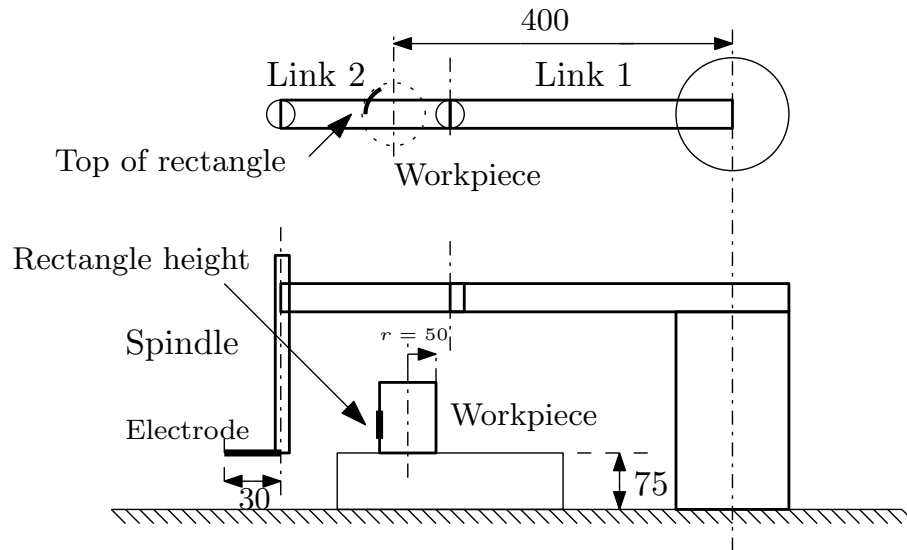

Figure 4: Workpiece and initial electrode position
A plasma cutting electrode is attached horizontally at the bottom end of the spindle (see Fig. 4). The electrode rotates and moves up and down with the spindle. The robot will be used to cut a rectangular window on a circular-base cylinder located along the reference position shown in the figure. The cylinder has radius 50 mm, is 100 mm tall and is supported 75 mm above the base of the robot. The electrode must be normal to the circumference of the workpiece during the cut. The electrode will not change length during the operation.
1. Assign coordinate frames starting from the information given in Fig. 4 and the dimensions at the end of this document. Use the D-H convention.